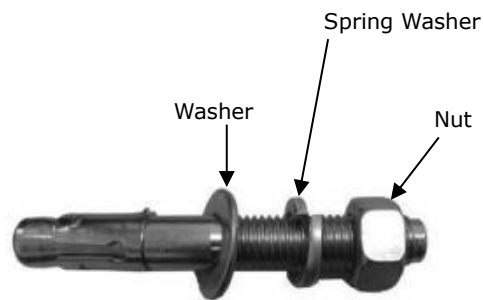

Fig. 31
O. Install Rear wheel stop plates (See Fig. 31)
1.1 Prepare the anchor bolts (See Fig. 31).